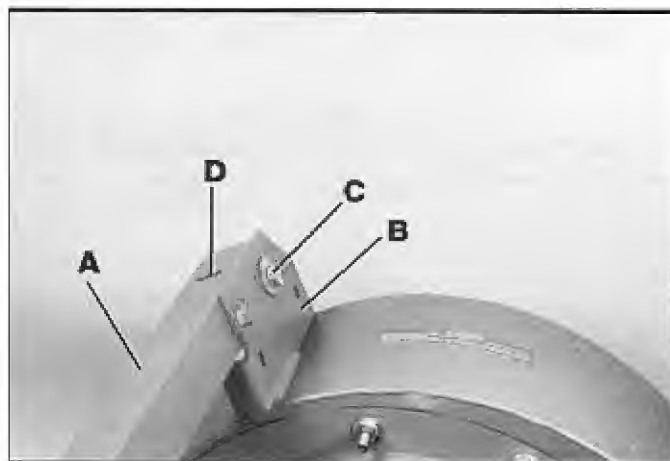

Fig. 9
1. Remove hex nut from welded bolt on lug (B) Fig. 9. Assemble one leg section (A) Fig. 9, to lug (B) and fasten with one 1-1/2 inch-long screw (C), three flat washers, two lockwashers and two hex nuts. **NOTE:** Do not completely tighten hardware at this time. Make certain single slot (D) Fig. 9, in leg section (A) is facing outward as shown, and edge of leg angle (A) is pointing counterclockwise when viewed from below the cyclone separator.